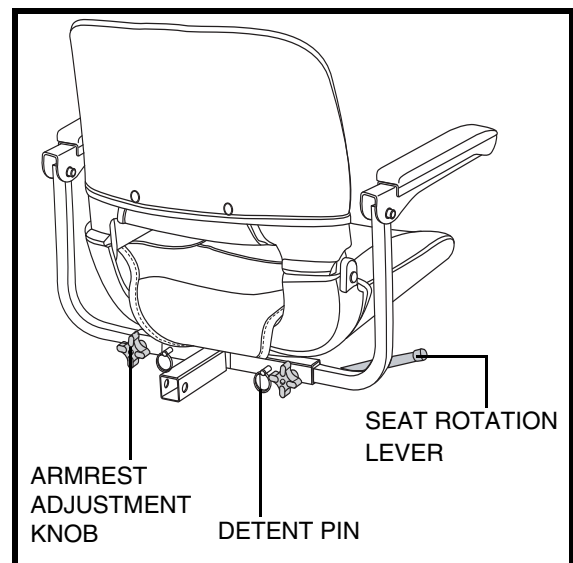

Figure 14. Seat Adjustments
The seat rotation lever, located on the right side of the seat base, secures the seat into several positions. See figure 14.
1. Loosen the armrest adjustment knobs. See figure 14.